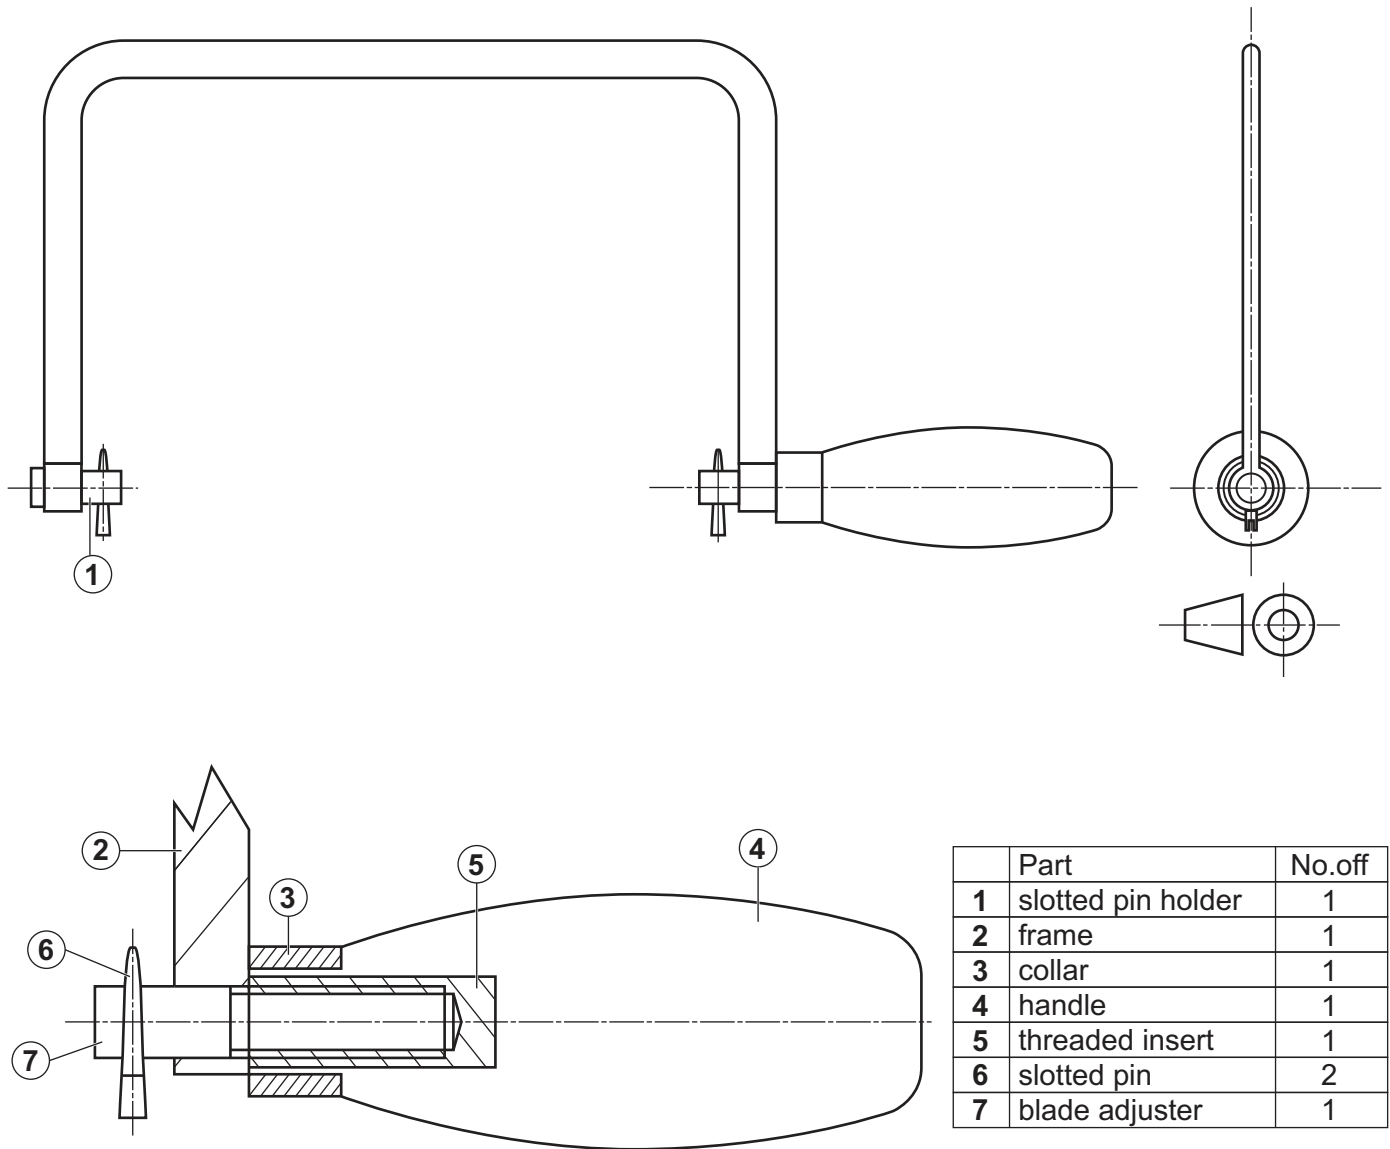

Fig. 7.1
- 7 Fig. 7.1 shows orthographic views of a coping saw, a sectional view through the handle end of the coping saw and a parts list.